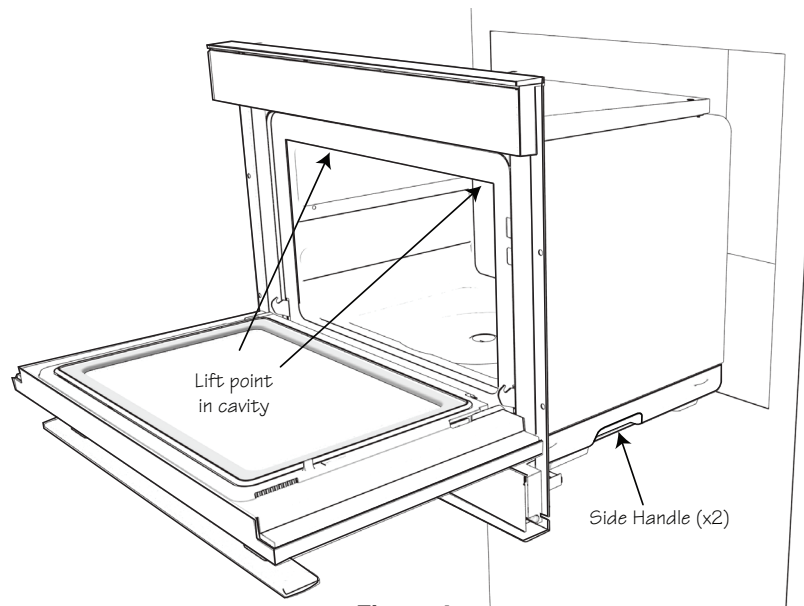

Figure 4
1. Open the Smart Combi Steam Oven door and use lift points in Figure 4. Place the oven adjacent to the wall or cabinet opening. **DO NOT LIFT OVEN WITH HANDLE.** Plug the power supply cord into the electrical outlet.